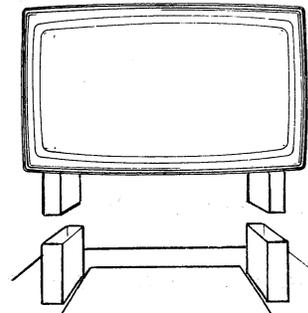

Fig. 3—Display Monitor
4.03 Remove display monitor (if applicable) (Fig. 3) from printer cabinet. Grasp monitor by sides near supports and simply lift up. Electrical cable connectors are part of support assembly.